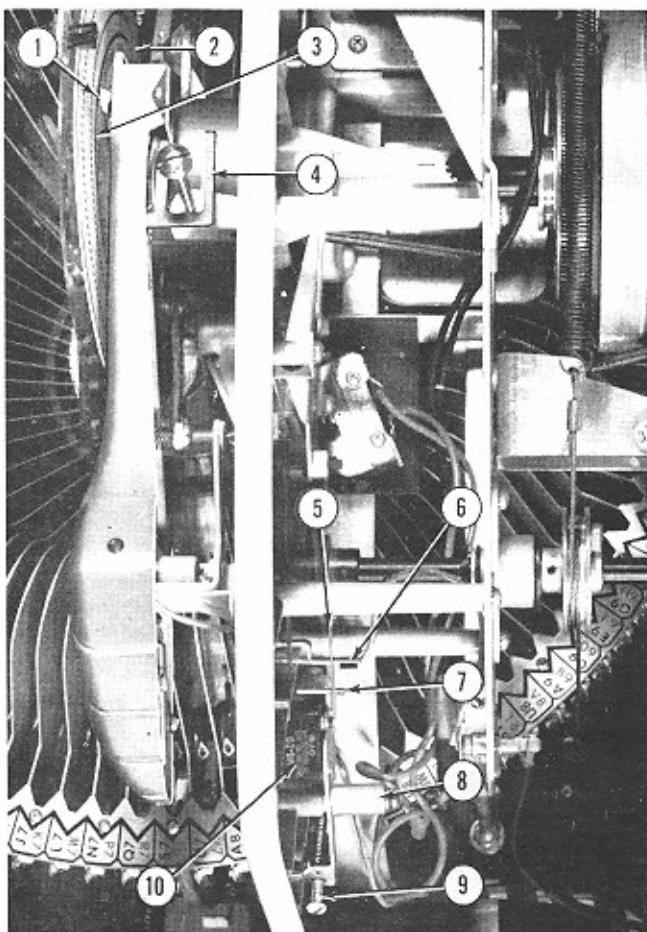

Fig. 82. TRIP SWITCH ADJUSTMENT
x. Trip Switch Adjustment. (Fig. 82)
The trip switch is actuated by a bracket on the tone arm (Item 6, Fig. 82). The action of the trip switch is advanced or retarded by turning the adjustable stop screw (Item 9). The operation of the trip switch should occur when the record has completed its playing. However, some records must use more record space than others, therefore the trip action should be delayed long enough to accommodate the majority of records. As in making the tone arm feed-in adjustment, there are two methods presented for making the adjustments of the trip switch. As before, one method utilizes record disc X42226, and the other depends on measurement as follows:
(4) The trip switch adjusting screw may now be adjusted to a point where inward movement of the tone arm will actuate the trip switch exactly where the pick-up needle has reached the inner groove of record disc X42226, as shown at Item 1, Figure 82.